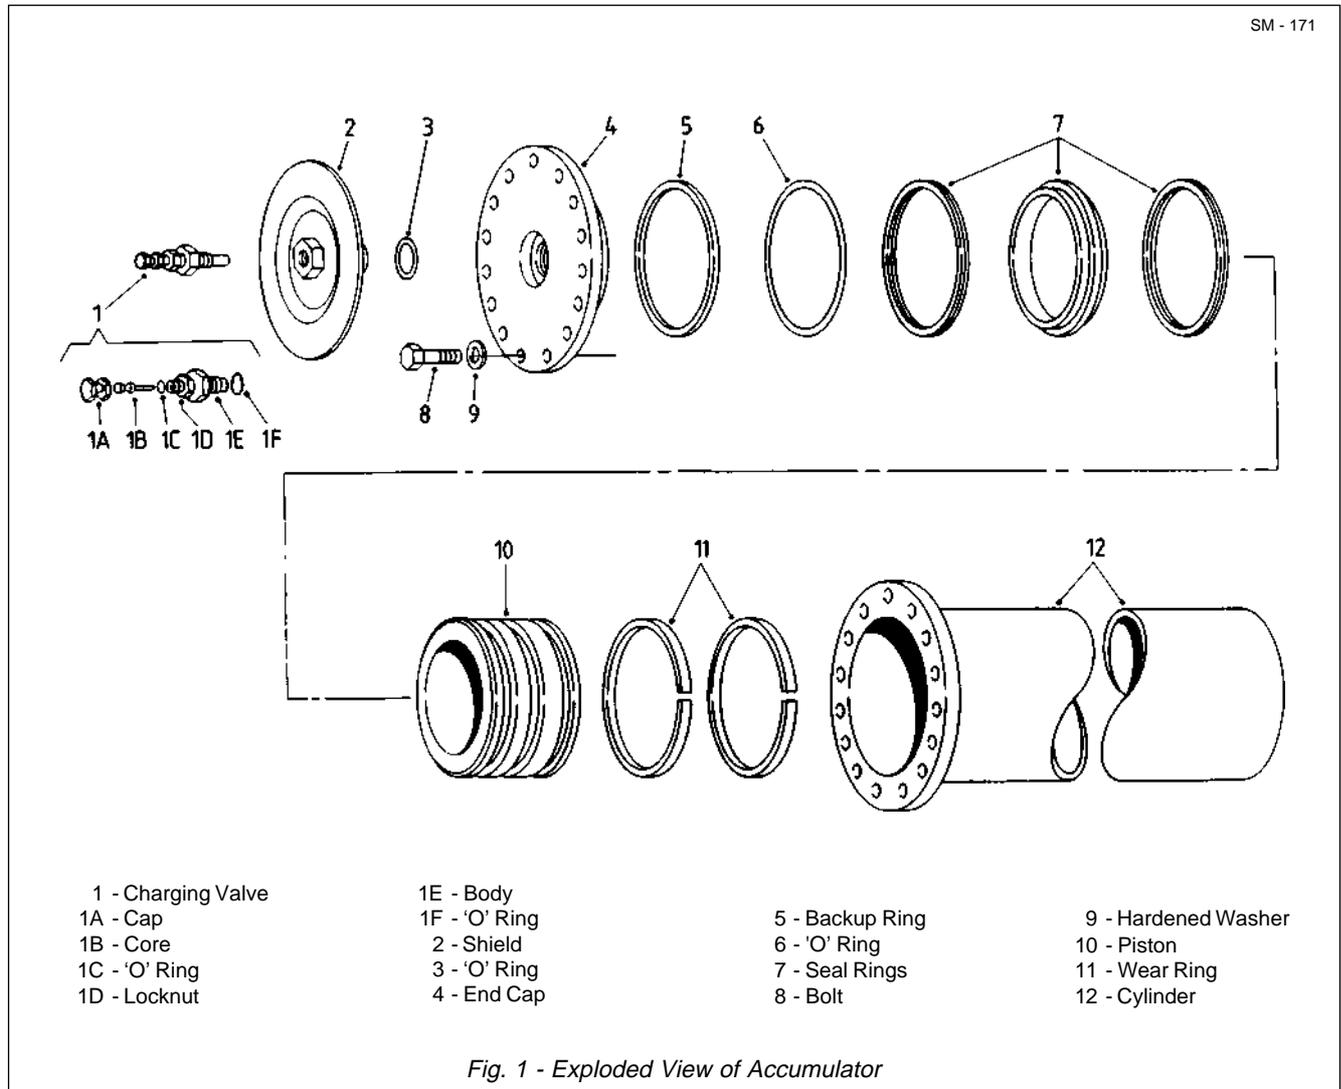

Fig. 1 - Exploded View of Accumulator
Numbers in parentheses refer to Figs. 1 & 6.
Numbers in parentheses refer to Fig. 1.
4. Remove cap (1A, Fig. 1) from accumulator charging valve (1, Fig. 1). Attach charging line (1) to charging valve by rotating 'T' handle of valve chuck (2) counter-clockwise until it stops, then screw the swivel nut down on valve. Loosen charging valve locknut (1D, Fig. 1) by turning counter-clockwise one to two turns.
5. Turn 'T' handle clockwise until charging valve core is depressed. Be sure bleeder valve (10) is tight and does not leak, and valves (4 & 6) are closed.
6. To read accumulator pre-charge pressure, slowly open accumulator valve (4). Pressure gauge (5) will register pre-charge pressure, it should be 55 bar (800 lbf/in2) at 21° C (70° F) ambient temperature. Refer to the table at the end of this section for Nitrogen pressures at ambient temperatures of other than 21° C (70° F).
7. Close accumulator valve (4) and open bleeder valve (10) to dissipate gauge pressure. Close bleeder valve (10) after pressure is relieved. If the accumulator needs charged, leave line (1) and valve chuck (2) attached to charging valve and charge the accumulator as described under 'Charging The Accumulator'.
8. If pre-charge is 55 bar (800 lbf/in2) at 21° C (70° F), rotate 'T' handle counter-clockwise until it stops, then tighten locknut (1D, Fig. 1) on charging valve (1, Fig. 1) to 11 Nm (100 lbf in). Loosen the swivel nut and remove gauging head.
9. Install valve cap (1A, Fig. 1) on charging valve (1, Fig. 1) and tighten finger tight.
1. Attach line (1) and the swivel nut to charging valve (1, Fig. 1) as described in Steps 1 through 4 under the heading 'Testing Pre-Charge Pressure'. Be sure valves (4 & 6) are closed.
2. Attach gauging head to nitrogen bottle by screwing down on gland nut (8).
3. Open tank valve (6) slowly; pressure shown on pressure gauge (5) is tank pressure.
4. Open accumulator valve (4) slowly and charge accumulator to 55 bar (800 lbf/in2) at 21° C (70° F) ambient temperature, closing valve occasionally. Refer to the table at the end of this section for the Nitrogen pressures at ambient temperatures of other than 21° C (70° F).
5. To check accumulator charge, close tank valve (6), relieve pressure between tank and pressure gauge (5) by opening bleeder valve (10) momentarily. This will allow gauge needle to settle, thus giving correct pressure reading of accumulator charge.
6. When the correct pressure for the ambient temperature has been reached, close valves (4 & 6) tightly. Bleed pressure off pressure gauge (5) by opening bleeder valve (10). Close bleeder valve when oil pressure is bled from the gauge and unscrew gland nut (8) from nitrogen bottle.
7. Rotate 'T' handle of valve chuck (2) counter-clockwise until it stops, tighten charging valve locknut (1D, Fig. 1) to 11 Nm (100 lbf in), loosen the swivel nut and remove gauging head.
8. Check accumulator charging valve (1, Fig. 1) for leakage using soapy water. Reinstall valve cap (1A, Fig. 1) and tighten finger tight.
Numbers in parentheses refer to Fig. 1